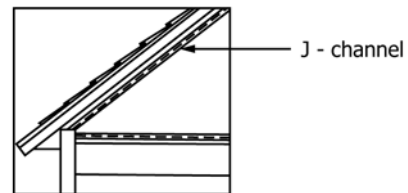

FIG. 17 Installation of J-channel on Gable
9.3.8 At a gable, install J-channel along the rake boards, or at the top of the wall if there are no rake boards. (See Fig. 17.) Lap the channels if necessary by cutting 1 in. (25.4 mm) off the end leaving only the face and then lap 3/4 in. (19 mm). Miter the ends that meet at the peak to make a neat joint.